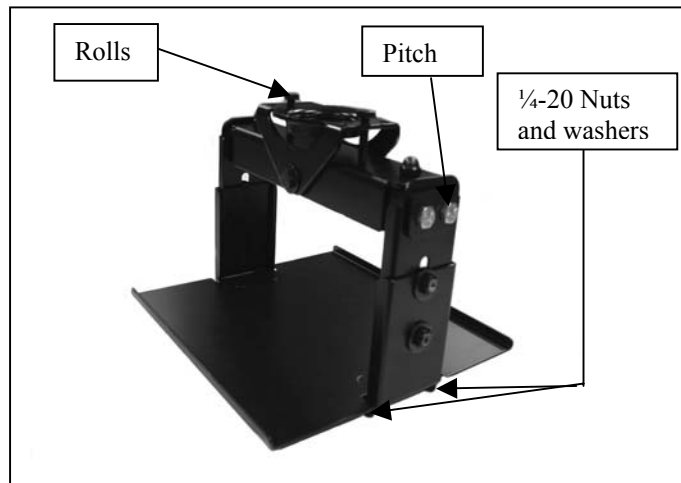

Figure 1
2. Measure projector width and height and adjust LCDA frame to appropriate size. Hand tighten only to prevent members from moving freely. See figure 1.
Loosen the 1 1/2" jam nut and back it off a couple of turns. Turn LCDA frame assembly clockwise to desired yaw and re-tighten jam nut. **CAUTION!** When turning LCDA assembly about the pipe in a counter clockwise direction, it may be completely unthreaded. See figure 1.
Slightly loosen four 1/4-20 bolts at upper outsides of assembly and it may be tilted forward or backward to a desired angle. Re-tighten bolts. See figure 1.
Loosen either of the roll adjust bolts and tip assembly to desired angle. Re-tighten opposite bolt to lock position. See figure 1.